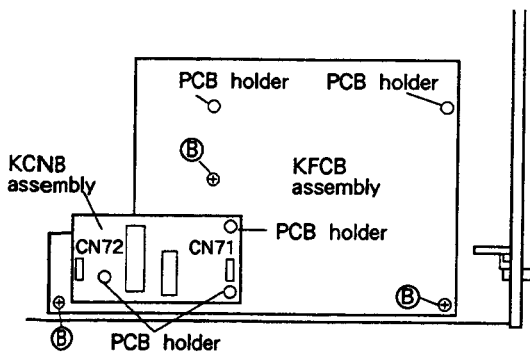

Fig. 7-5
**7.3 REMOVING THE KCNB, KFCB AND MAIN ASSEMBLIES (Fig. 7-5, 6)**